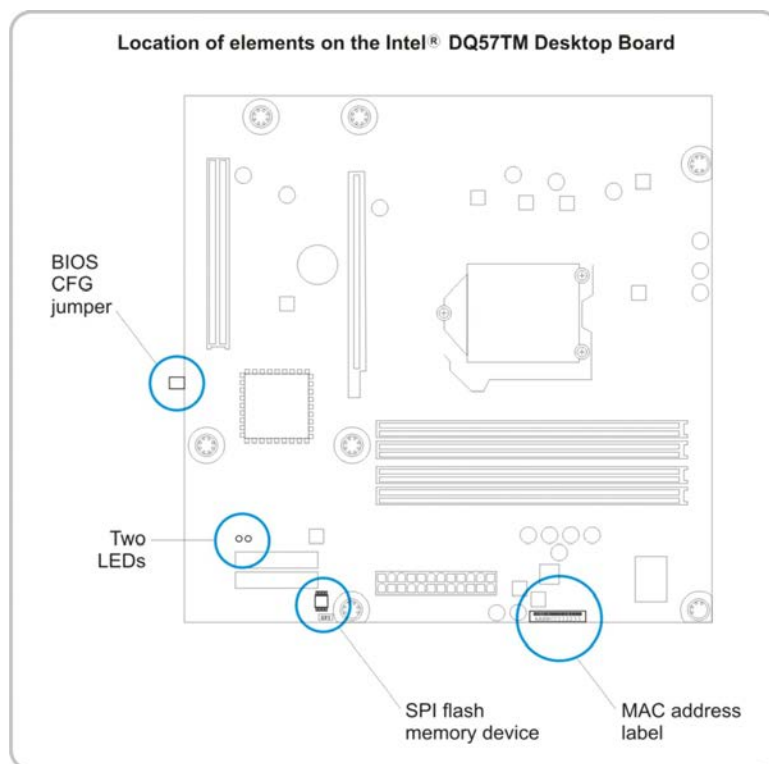

Figure 2-1. Intel® DQ57TM Desktop Motherboard – key elements
3. Use the UEFI Shell firmware update utility (`FirmwareUpdate.efi`) to patch the BIOS with the motherboard's MAC address (see Figure 2-1):
**Note:** Replace `0011AA33CC55` with the motherboard's MAC address (Figure 2-1) which can be found near the ATX power connector.
Figure 2-1 shows the location of the BIOS CFG jumper, the SPI flash memory device, and the MAC address label. The left LED is the green standby-power indicator LED; the right LED is the red Intel ME indicator LED.